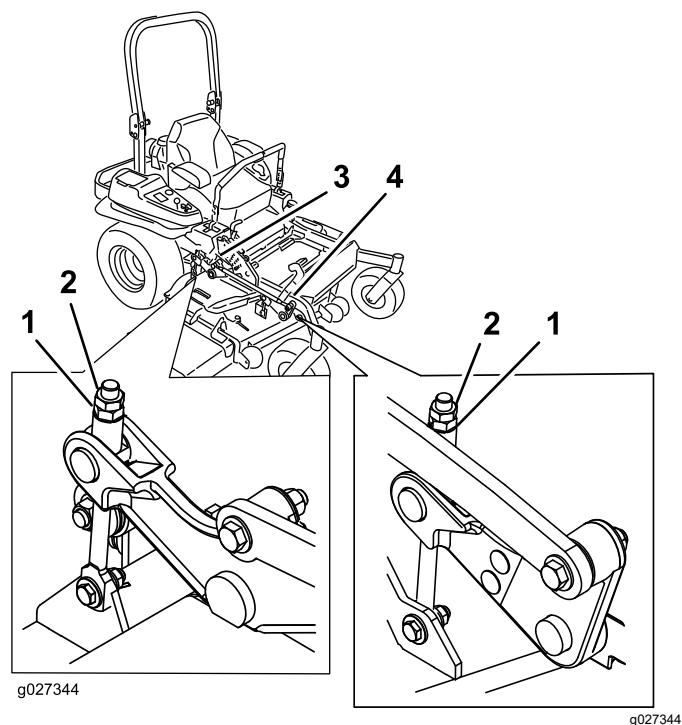

Figure 99
10. Fine-tune the adjustment nut on the front deck-lift assembly by turning it (Figure 99).
16. Fine tune the screw adjuster by turning it to get 8.3 mm (3-1/4 inches) height (Figure 99).